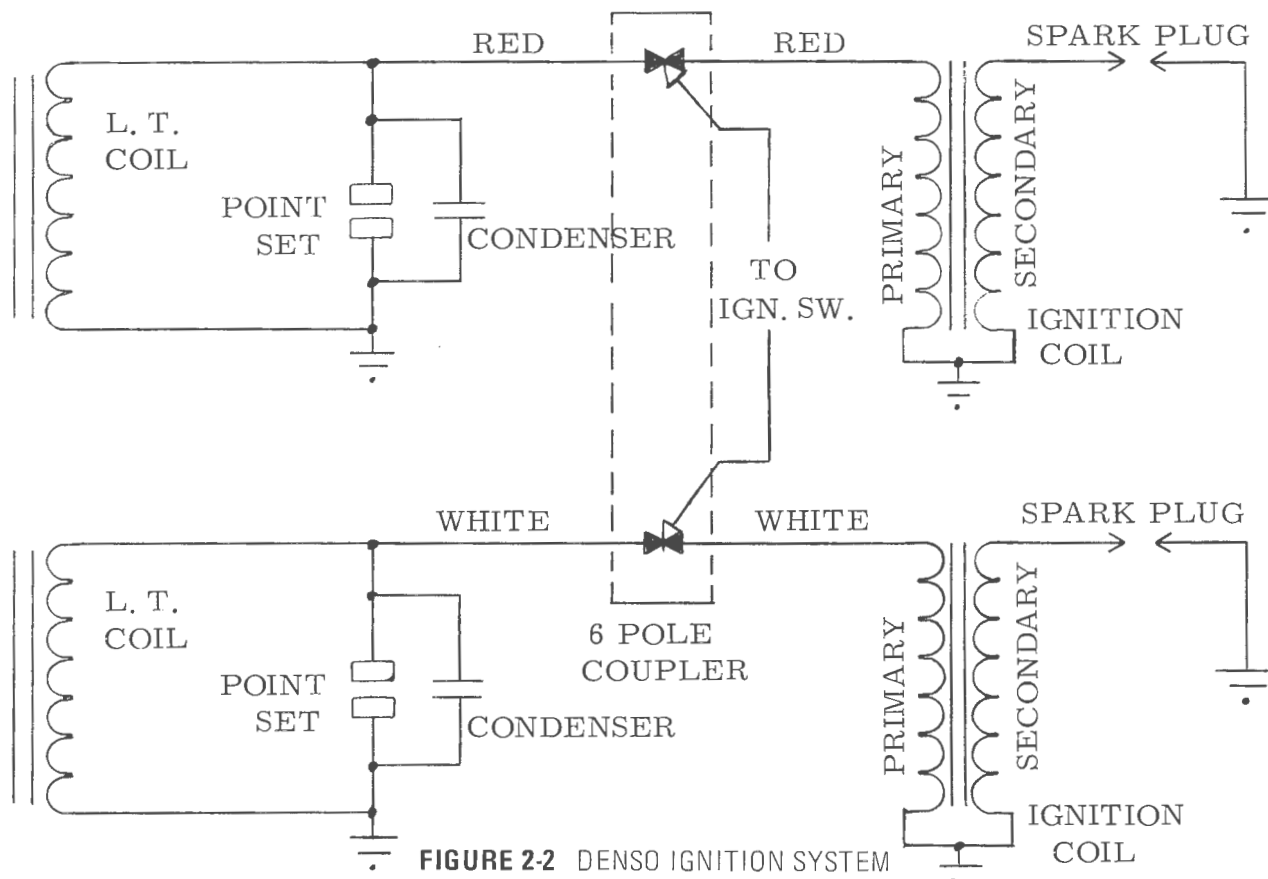

FIGURE 2-2 DENSO IGNITION SYSTEM
2.3.3 Operation (See Figure 2-2)